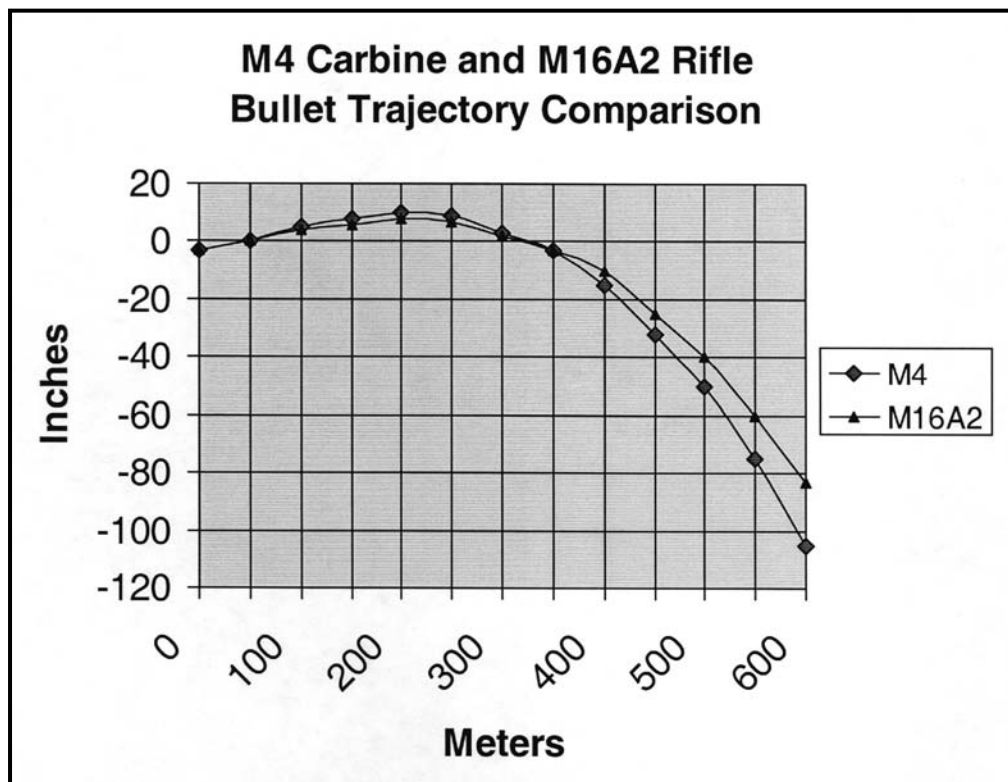

Figure 7-39. Bullet trajectory comparison.
(1) **Elevation.** The SDM uses hold-off to hit a target at ranges other than the range for which the rifle is presently adjusted. When a soldier aims directly at a target at ranges greater than the set range, his bullet will hit below the point of aim. At lesser ranges, his bullet will hit higher than the point of aim. If the SDM understands this and knows about trajectory and bullet drop, he will be able to hit the target at ranges other than that for which the rifle was adjusted. For example, the SDM adjusts the rifle for a target located 500 meters downrange and another target appears at a range of 600 meters. The hold-off would be 25 inches; that is, the SDM should hold off 25 inches above the center of visible mass in order to hit the center of mass of that particular target. If another target were to appear at 400 meters, the SDM would aim 14 inches below the center of visible mass in order to hit the center of mass. The chart in Figure 7-39 shows the projectile's trajectory when fired from the M16A2 and the M4 carbine. The red line shows the trajectory of the M4 carbine and the blue line shows the trajectory of the M16A2. This demonstrates the drop of the round at various ranges. This diagram will also assist the trainer in teaching vertical hold-off during this phase.